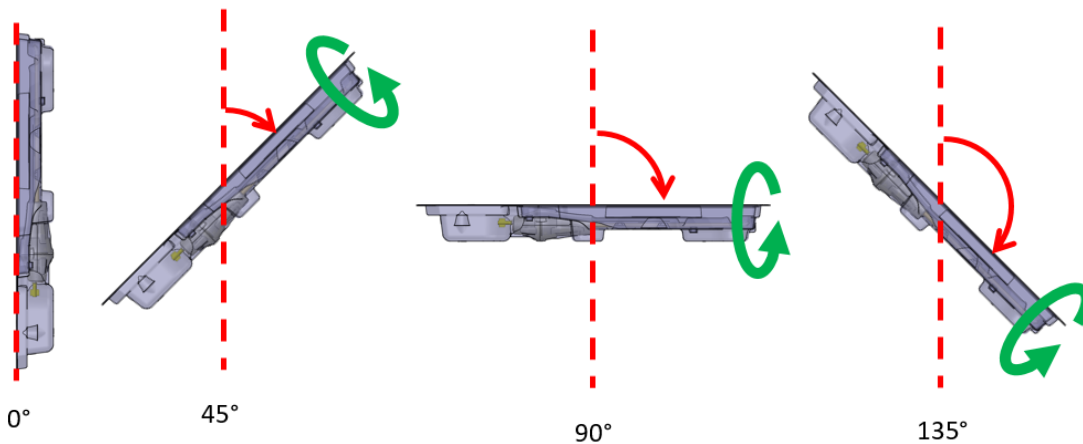

Figure 10. Recommended procedure for purging air from ultrasound applicator.
- b. While the purging operation is on, hold the UA in its package—be careful not to touch the UA handle to keep the UA sterile. Tip the package upwards in the 0° position, then tilt to approximately 45°, then 90°, and 135°. At each angle, slowly rotate the package approximately 360° (Figure 10).